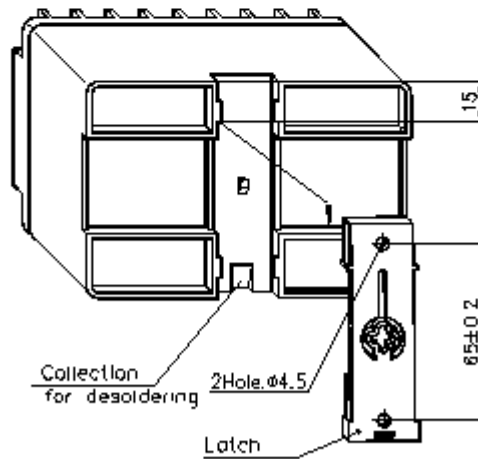

Figure C.2 Mounting on the Panel
- fix a latch on the panel by two screws according to figure C.2;